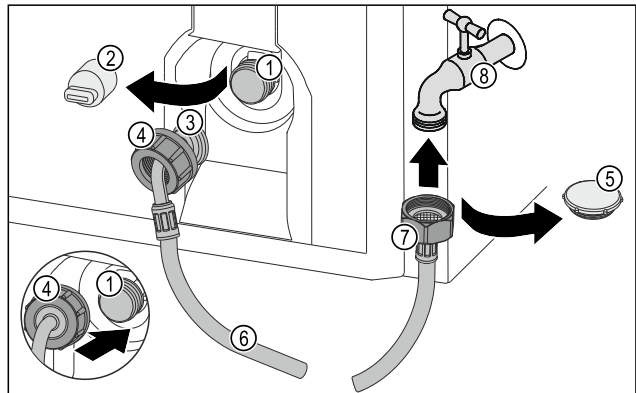

Fig. 32
- ▶ Remove the closure cap Fig. 32 (5).
- ▶ Place the straight end of the hose Fig. 32 (7) on the tap Fig. 32 (8).
- ▶ Tighten the nut at the straight end of the hose Fig. 32 (7) in a clockwise direction.